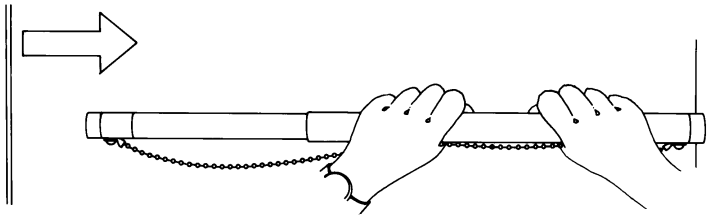

Figure 3 - Safe Use of the Door Gauge
3. Use a force gauge to measure the closing force. See Figure 3.